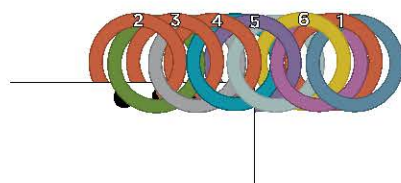

FIG. 10
Thread and close 1 open (green) jump ring straight through the inner (white) jump rings. Then thread and close another open jump ring straight through the inner jump rings (**FIG. 10**).
17. Thread the remaining open (blue) jump ring through the last 2 adjacent base-row (yellow/orange) jump rings, moving left to right from the front. Close the open jump ring (**FIG 10**).